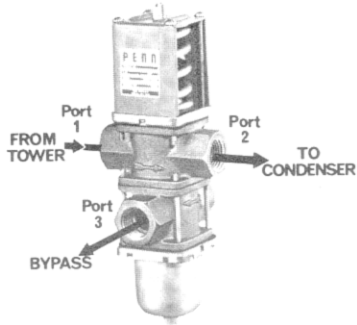

Fig. 2 -- Water flow of 1/2 in. through 1-1/4 in. valves.
* See Figs. 2 and 3 for Port arrangements.